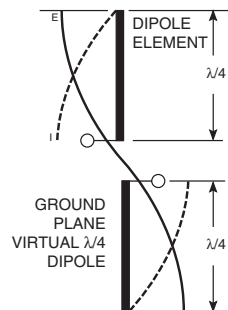

Figure 42: Dipole Antenna
4. In many antenna designs, particularly  $\frac{1}{4}$ -wave whips, the ground plane acts as a counterpoise, forming, in essence, a  $\frac{1}{2}$ -wave dipole (Figure 42). For this reason, adequate ground plane area is essential. The ground plane can be a metal case or ground-fill areas on a circuit board. Ideally, it should have a surface area less than or equal to the overall length of the  $\frac{1}{4}$ -wave radiating element. This is often not practical due to size and configuration constraints. In these instances, a designer must make the best use of the area available to create as much ground